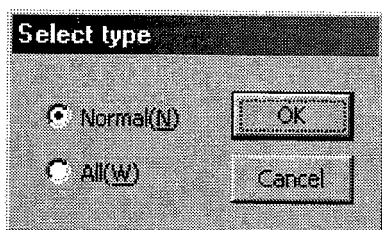

Figure 7.49 "Select type" dialog box
Click "Download (D)" in the "Index TypeB Menu" to display the "Select type" dialog box (see Figure 7.49).
- 1) Select "Edit file" in the "Universal cam profile" dialog box shown in Figure 7.49.
- 2) Enter the file name of a universal cam profile (extension .unv) in the file name input text field. If you are not sure about the accurate file path and name, click "Browse (R)."
- 3) Select a file and click "Open (O)."
- 4) Click "Next (N)" to return to the "Universal cam profile" dialog box.